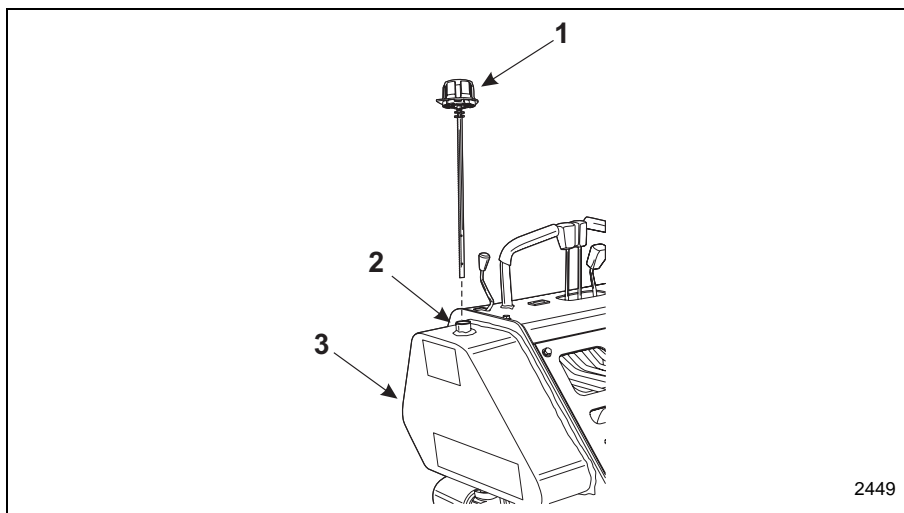

Figure 4-16 Hydraulic Oil Check and Fill
The hydraulic dipstick is located underneath the hydraulic filler cap, located on top of the upper hydraulic tank. See Figure 4-16.
- e. Unscrew the dipstick assembly and remove from the machine. (1, Figure 4-16) and fill the hydraulic tank with the proper hydraulic fluid (Chevron Rykon Premium ISO 46 or equivalent) until the fluid level is at but not above the upper marker hole in the dipstick. Do not over fill the hydraulic system. Damage to the hydraulic system might result.